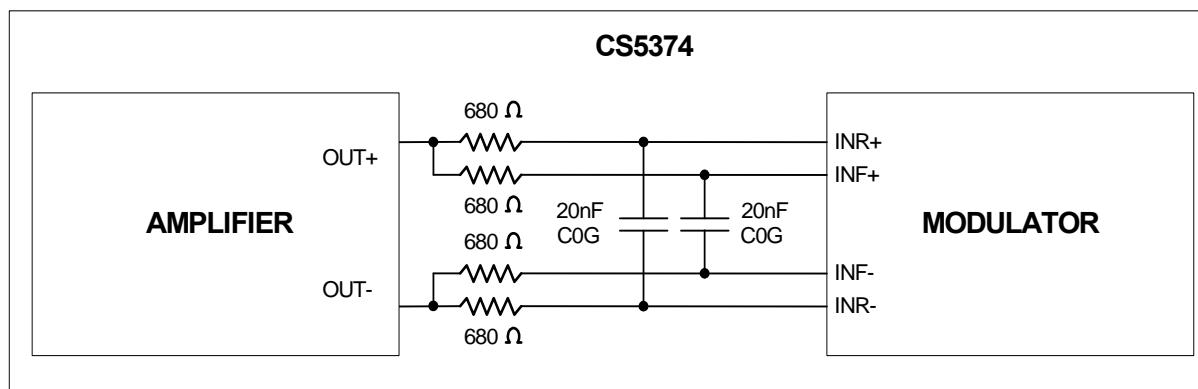

Figure 1. External Anti-alias Filter Components
- 10. Anti-alias capacitors are discrete external components and must be of good quality (C0G, NPO, poly). Poor-quality capacitors will degrade total harmonic distortion (THD) performance. See Figure 1 for external anti-alias filter connections.